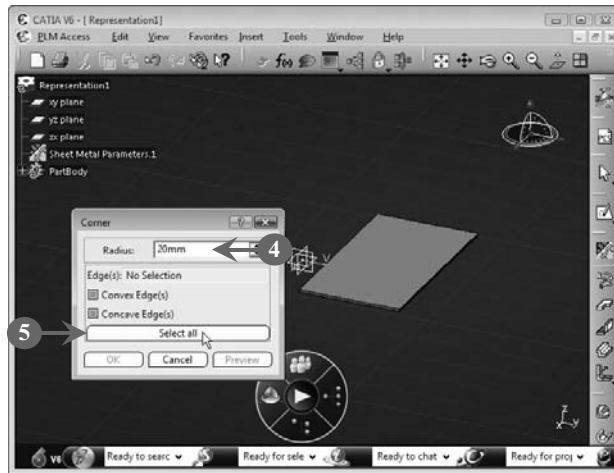

FIGURE 6.92
The **Corner** dialog box opens (**Figure 6.92**).
4. Enter a value for the radius of the corners in the **Radius** box. In our case, we have entered **20 mm** (Figure 6.92).
5. Click the **Select all** button to select all the corners of the base wall, as shown in Figure 6.92: